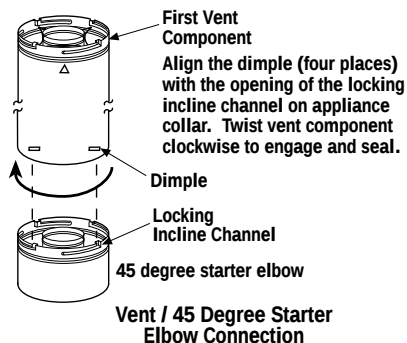

Figure 15
D. Attach vent components to 45 degree starter elbow - Secure Vent SV4.5 direct vent system components are unitized concentric pipe components featuring positive twist lock connections (see **Figure 15**).
To attach a vent component to the 45 degree starter elbow, align the dimpled end over the elbow, adjusting the radial alignment until the four locking dimples are aligned with the inlet of the four inclined channels on the collar (refer to **Figure 15**).
Secure Vent SV4.5 direct vent system components are unitized concentric pipe components featuring positive twist lock connection, (refer to Figure 15 and 16 on page 12). All of the appliances covered in this document are fitted with collars having locking inclined channels. The dimpled end of the vent components fit over the appliance collar to create the positive twist lock connection.
To attach a vent component to the the starter elbow, align the dimpled end over the collar, adjusting the radial alignment until the four locking dimples are aligned with the inlets of the four incline channels on the collar (refer to **Figure 15 on page 12**).